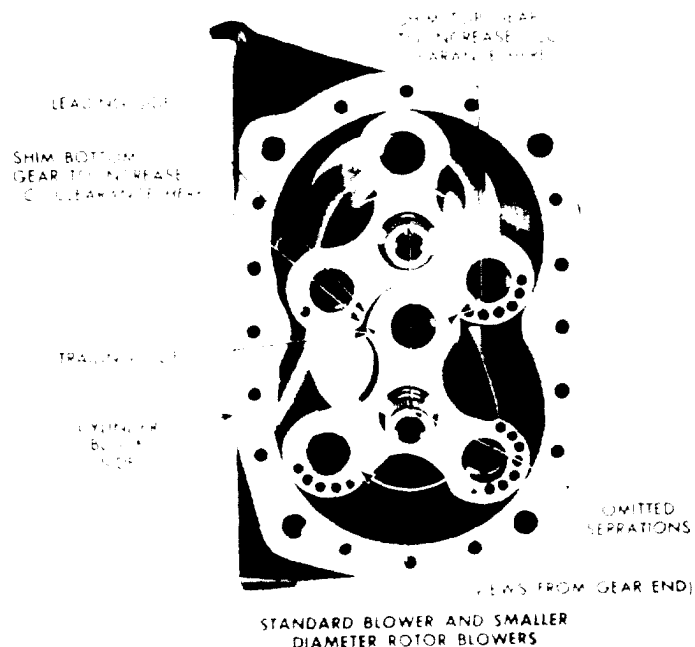

Figure 11D-22. Shim Locations for Correct Lobe Clearances
4. Determine the minimum clearances at point "A" and "B" shown in Figure 11D-21 on page 11D-15. Insert the feeler gauges, as shown in Figure 11D-23, between the end plates and the ends of the rotors. This operation must be performed at the ends of each lobe, making twelve measurements in all. See Figure 11D-21 on page 11D-15 for the minimum clearances.